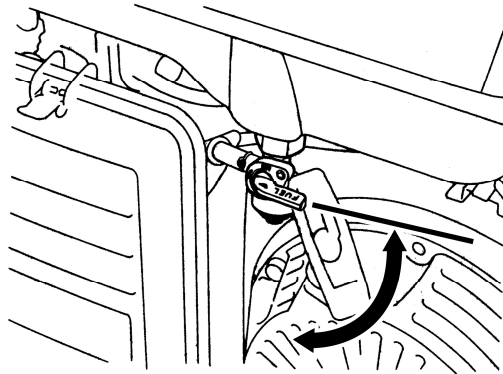

Figure 4-3: Fuel Shutoff Valve
- (1) Turn the fuel valve to OFF.
- (2) Remove (turn clockwise) the sediment cup and O-ring. Wash both parts in nonflammable or high flash point solvent.
- (3) Wipe the sediment cup and O-ring dry, then reinstall.
- (4) Set the fuel shutoff valve (Figure 4-3) to ON. Check for leaks.